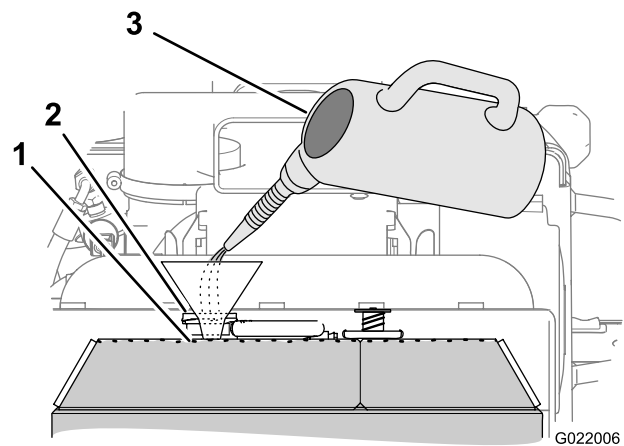

Figure 84
3. Fill the cooling radiator with the specified coolant mixture until the fluid level is up to the top of the filler neck (Figure 84).